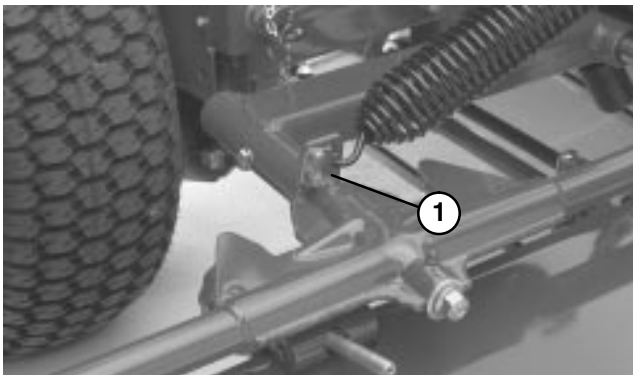

Figure 32
INSTALL COUNTERBALANCE SPRINGS (Figs. 32–35)
- Hook one end of spring into second hole (from bottom) on cutting unit lift tab (Fig. 32).